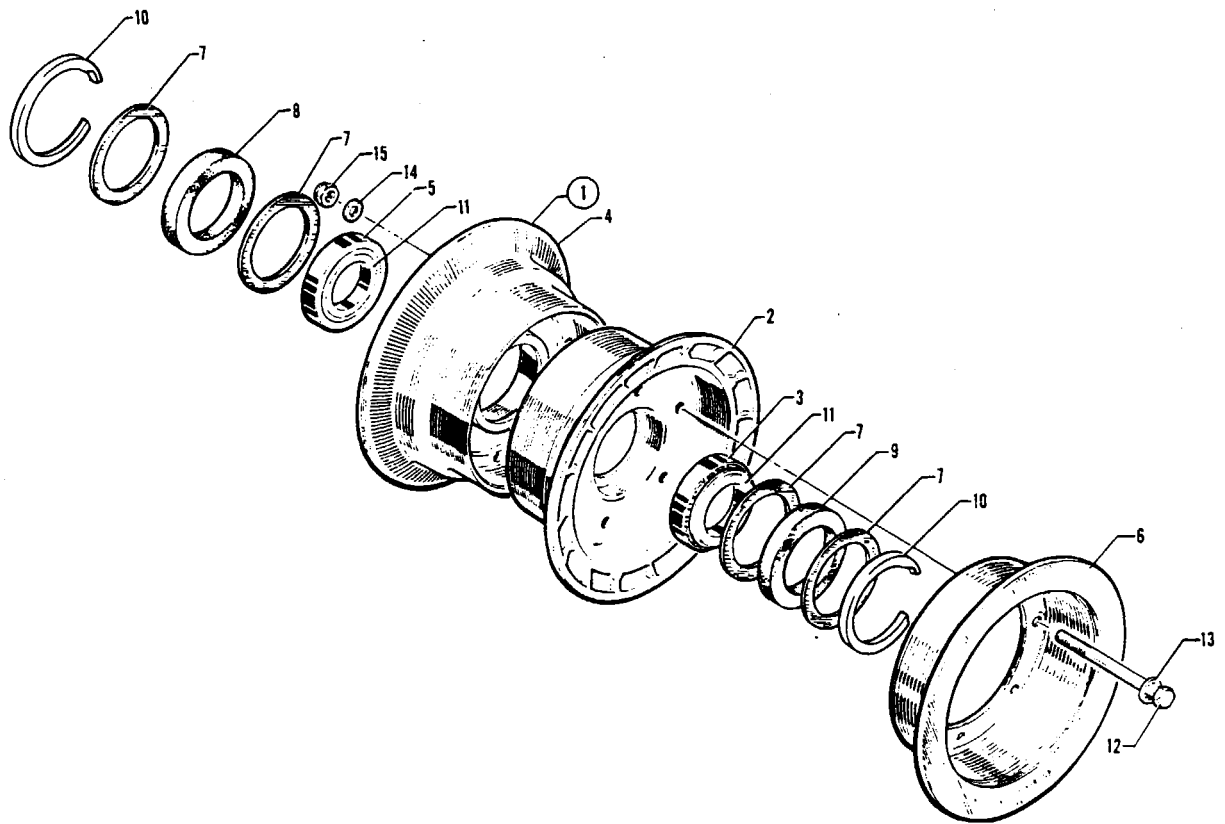

Figure 25B. Main Wheel Assembly (Cleveland)
- G - See Figure 25B for component parts.